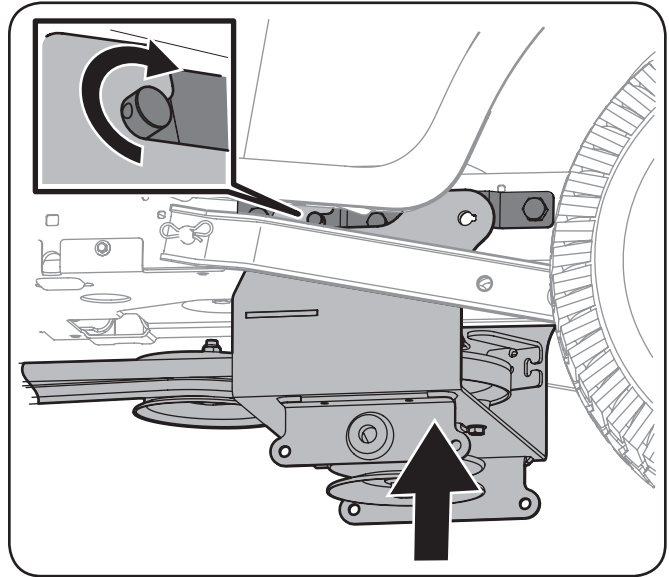

Figure 3-8
5. Carefully raise the carriage up and position the slots on the rear of the carriage over the pins on the support brackets. See Figure 3-8.